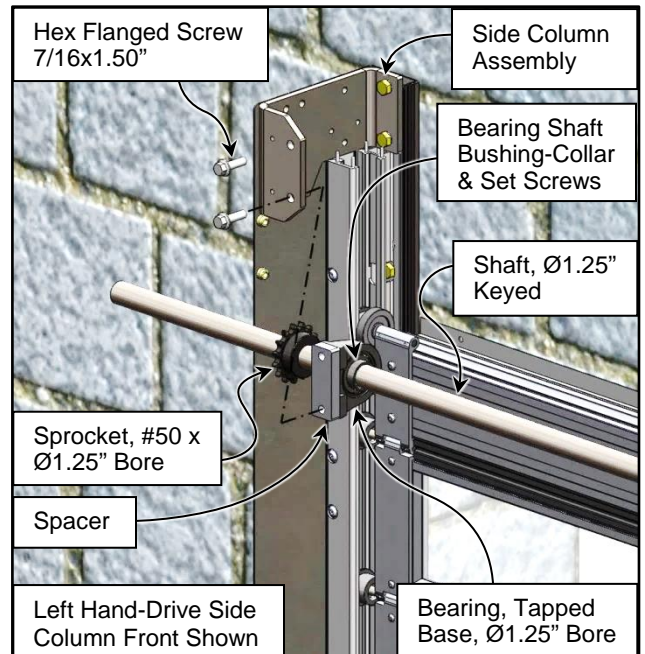
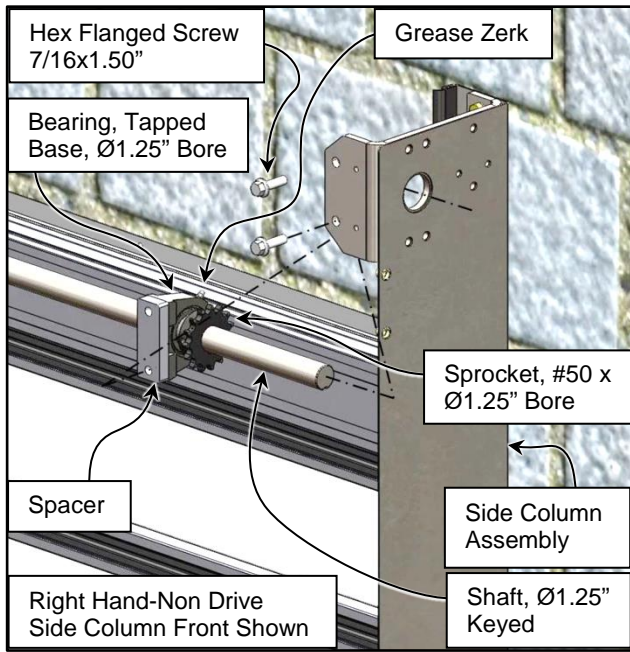
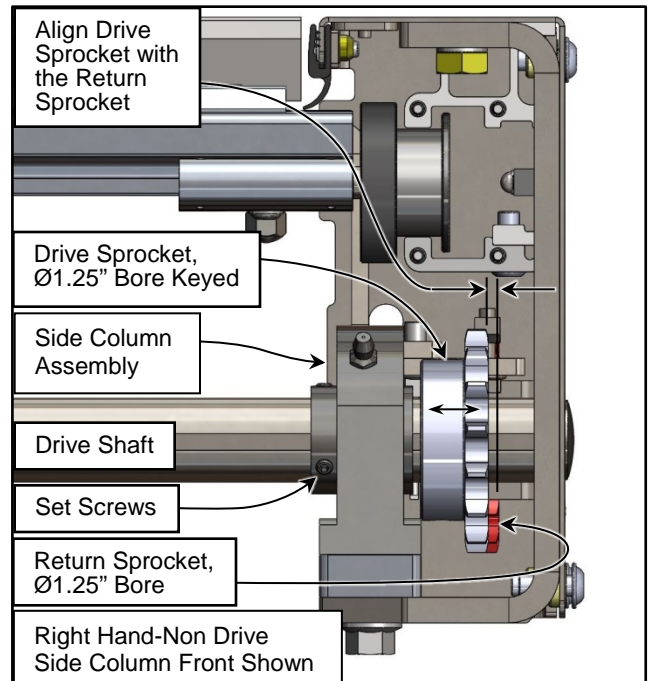

Figure 42
Figure 43
Figure 48
3. Pre-Assemble the Drive Shaft and mount into the Top Brackets as shown. (See Figure 42, Figure 43, and Figure 48)
- Secure the drive shaft in place with the set screws in the bearings as shown. Tighten them onto the drive shaft. They may need to be adjusted later. (See Figure 48)
- Starting on the drive side, adjust the drive sprocket along the drive shaft so it is properly aligned w/ the bottom sprocket of the side column assembly. Secure the sprocket in place with the sprocket set screws as shown. Tighten them onto the drive shaft. (See Figure 48)
- Adjust the non-drive side drive sprocket along the drive shaft so it is properly aligned w/ the bottom sprocket of the non-drive side Side Column Assembly. Secure the sprocket in place with the sprocket set screws as shown. Tighten them onto the drive shaft. (See Figure 48)